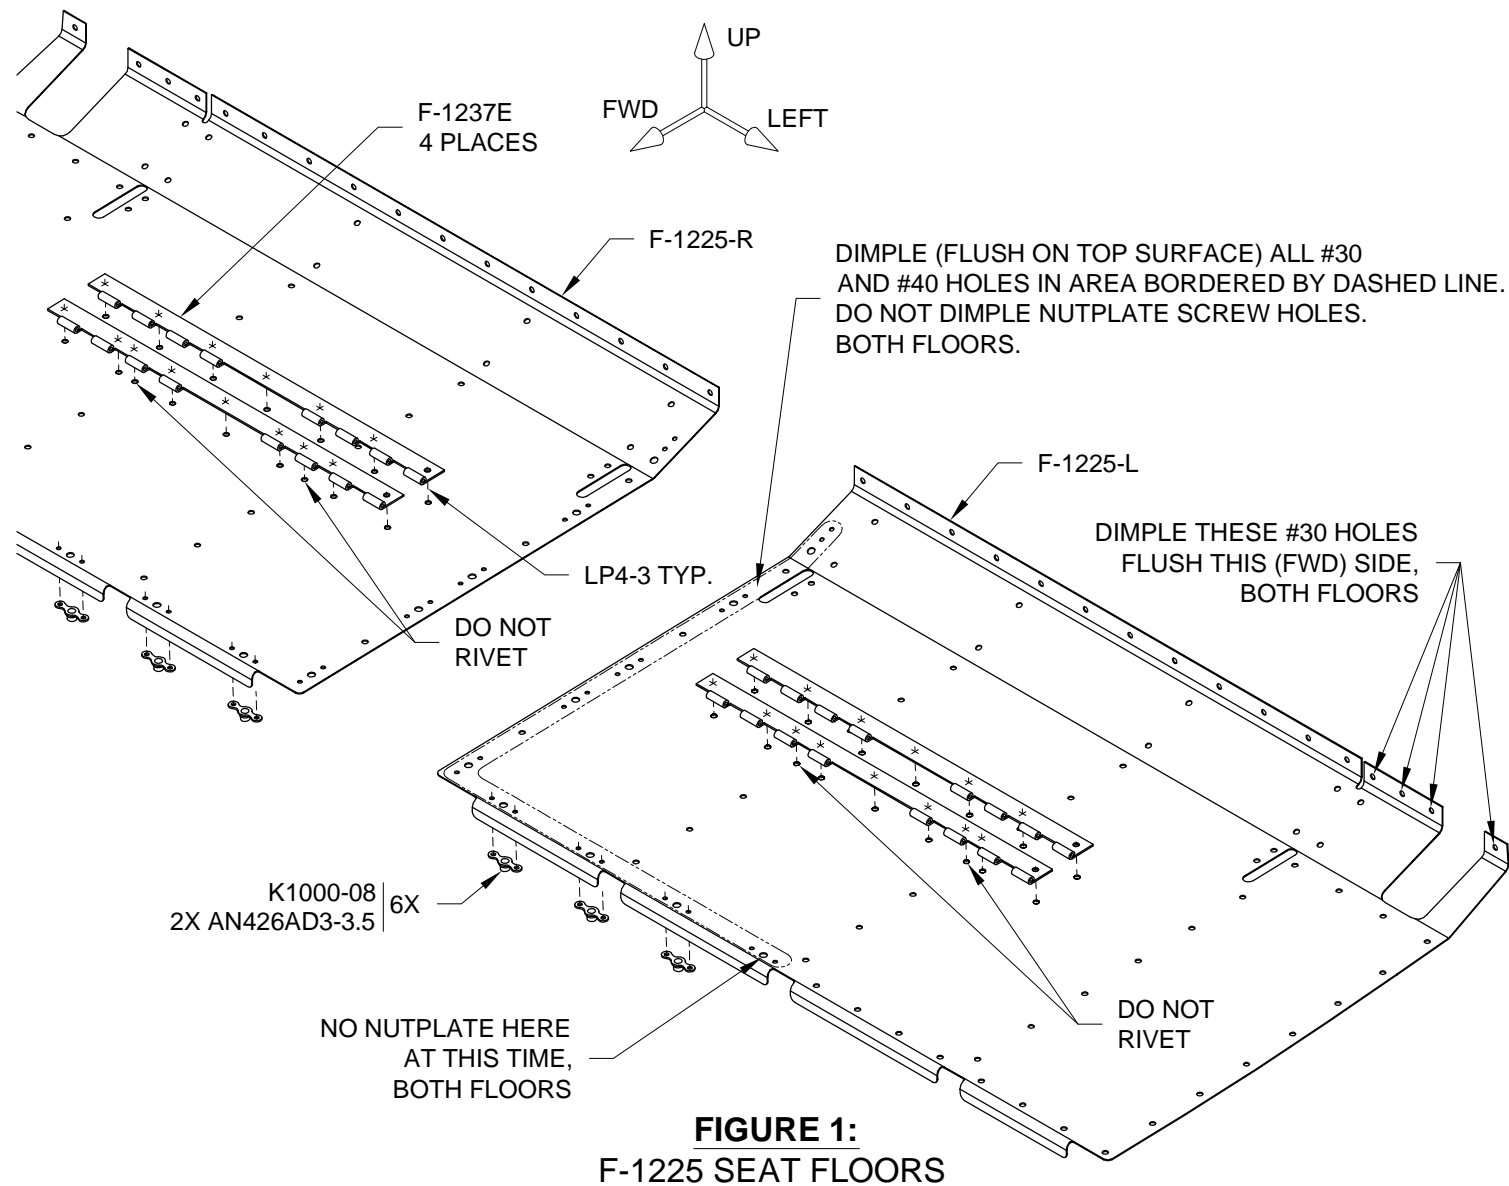

FIGURE 1:
Step 2: Except for the holes that will be used to attach the seat floor ribs (indicated in Figure 1), rivet the F-1237E Seatback Hinges to the F-1225-L & -R Seat Floors using the rivets called out.
Step 3: In both F-1225-L & -R Seat Floors, dimple the four holes in the aft flanges and the holes along the forward and inboard edges as indicated in Figure 1.
Step 4: Dimple the six nutplates, shown in Figure 1, along the forward edge of the F-1225-L & -R Seat Floors, then rivet them to the seat floors using the rivets called out.